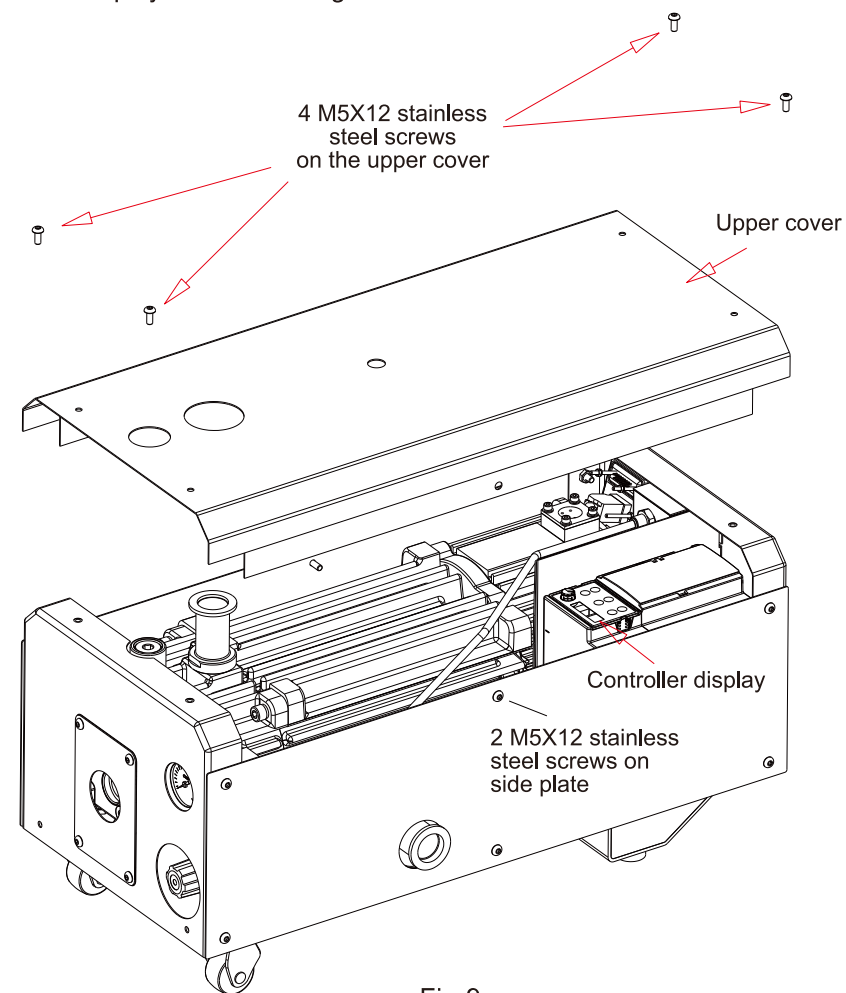

Fig.9
1. Remove 4 M5x12 stainless steel screws from the upper cover plate, as shown in Fig.9.
4. The location of controller display is shown in Fig.9.
If unplanned shutdown occurs repeatedly in a working environment with high concentration of dust, corrosion and vapor, solid-liquid mixture may attach to the pump gap, which results in the increase of load. Record the controller error code as per the requirements in Fig.9.
1. Check whether the current of controller is normal according to the requirements in Fig.9;